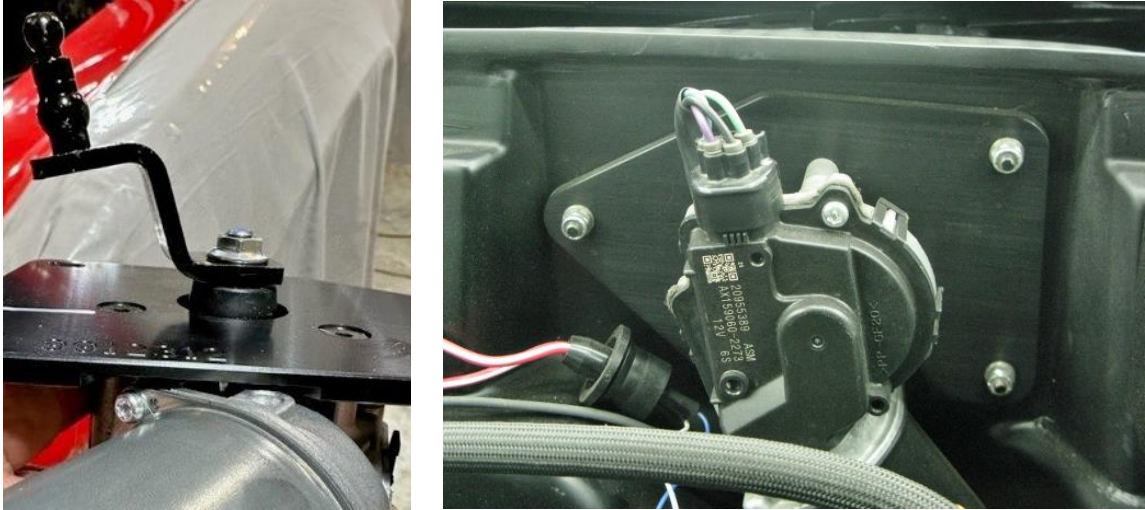

Figure 3 – Attach Wiper Motor to Firewall
6. Mount the new wiper motor assembly to the firewall stud plate using the three supplied 10-24 Nylock flange nuts. **NOTE:** The pitman arm is designed to have a bend (Figure 3).